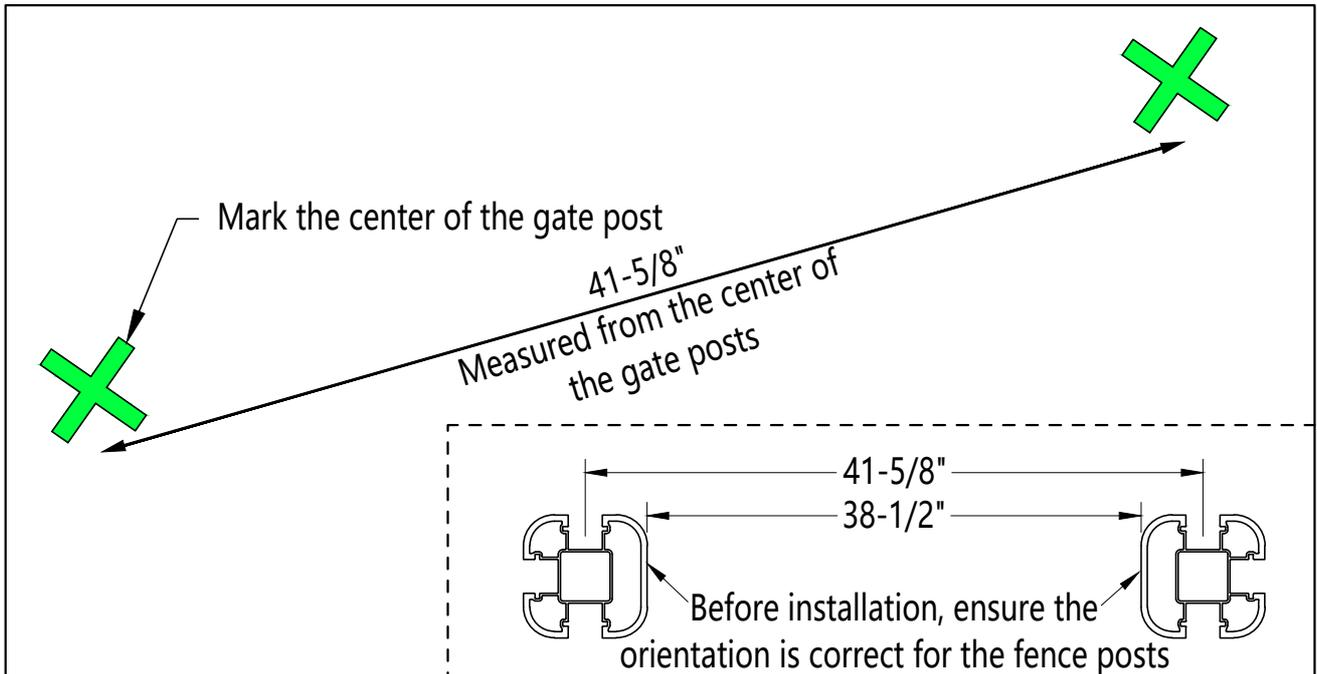

Figure 2
- 2 Measure and position the gate posts on the ground at a distance of 41-5/8" on center. Draw a positioning mark for the fixed center positions, as shown in Figure 2.